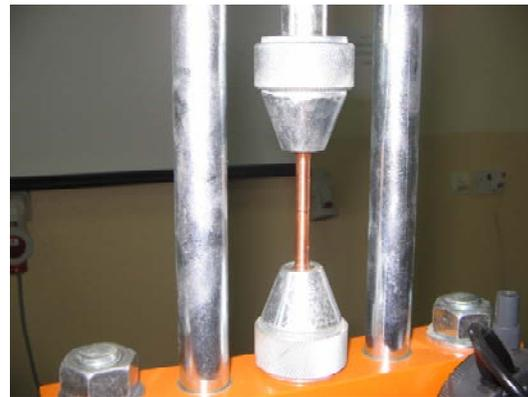

Fig. 4.12: The specimen is fixed on the holder.
3. Place the specimen on the holder. Make sure that the specimen is centered on the machine as shown in fig. 4.12.